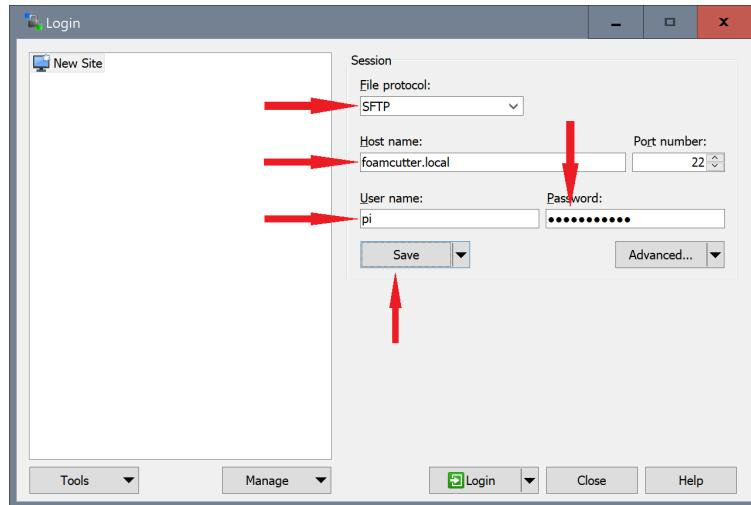

Figure 1.5: WinSCP Setup
3. As shown in fig 1.5 below, make sure the protocol is "SFTP", then enter "foamcutter.local" for the host name, "pi" for the user name, and "ucsdaiaadb" for the password.